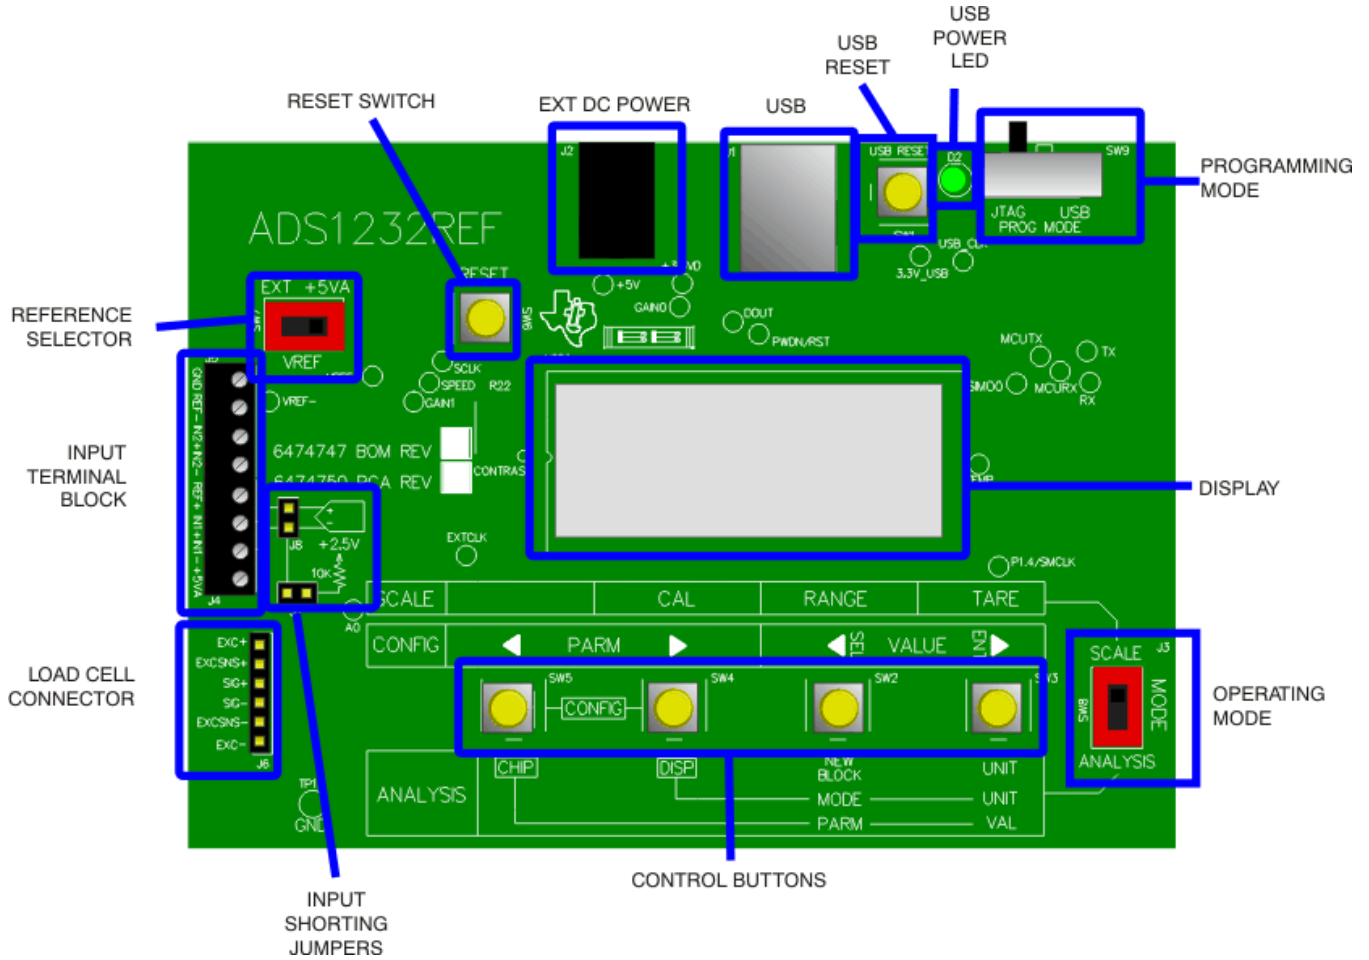

Figure 1. ADS1232REF Controls and Connectors
Figure 1 shows a diagram of the ADS1232REF.
The main controls for the ADS1232REF are the four buttons and the mode selection slide-switch (see Figure 1).
2. Short jumpers J8 and J7. (These jumpers are located very near the terminal block, and are marked *Input Shorting Jumpers* in Figure 1.)
2. If the input shorting jumpers J8 and J7 are connected, disconnect them (see Figure 1).